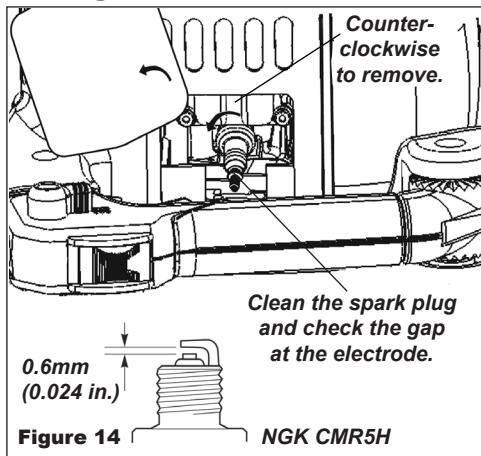

Figure 14
1. Use the spark plug wrench to remove the spark plug. See Figure 14.